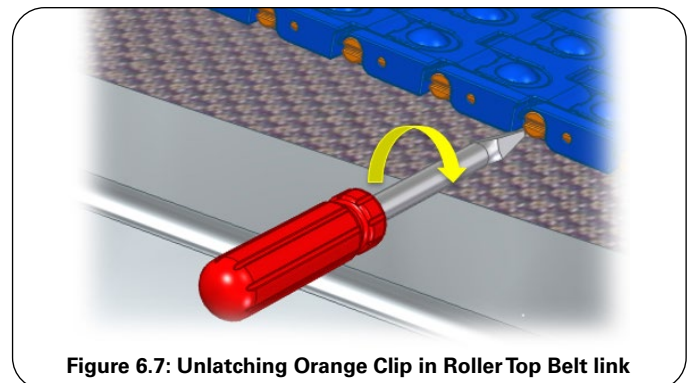

Figure 6.7: Unlatching Orange Clip in Roller Top Belt link
- Unlatch the orange clips on each end of the belt links you intend to separate. Insert a flat blade screwdriver into the slot in the clip and rotate 90 degrees. Remove and retain the orange clips for reinsertion. It may be necessary to slightly raise the edge of the Roller-Top Belt to access the orange clips. (Figure 6.7).